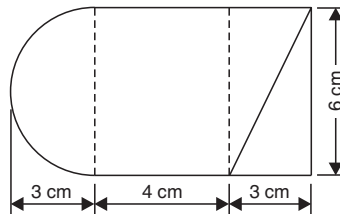

Fig. 4.43
1. Locate the centroid of the piece of sheet metal shown in Fig. 4.43. [Ans.  $\bar{x} = 4.59$  cm,  $\bar{y} = 3.19$  cm]